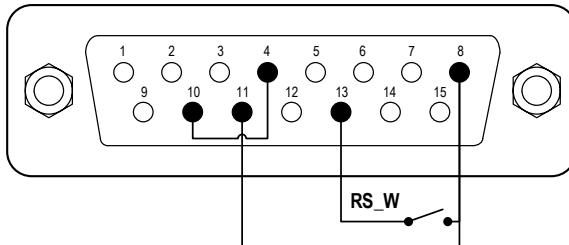

Figure 55. Control Start/Stop with Internal 12V Power Source
- 1) Power pump off. Wire the DB15 connector as shown on Figure 55 or Figure 56, and connect it to the DB15 port on the rear of the pump.